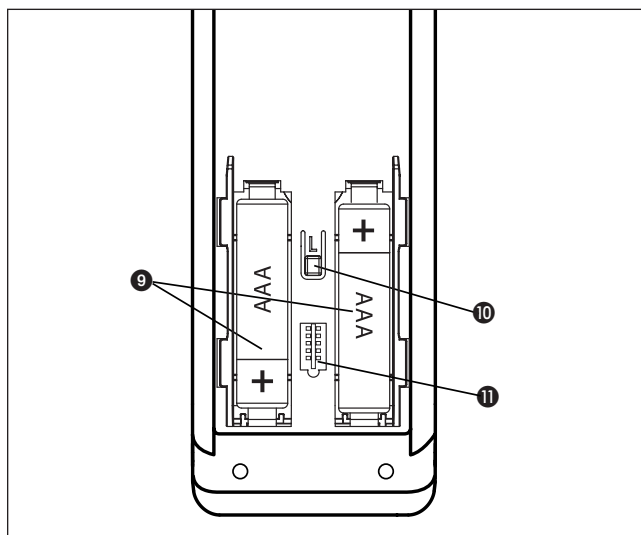

Fig. 3 Back of the WMS Hand-held transmitter plus
- In order to replace the batteries (type AAA, IEC LR03, "Micro"), open the battery compartment (*Fig. 3*) and insert the new batteries. Ensure the correct polarity: The plus (+) and minus (-) poles of the batteries must agree with the marks in the battery compartment.